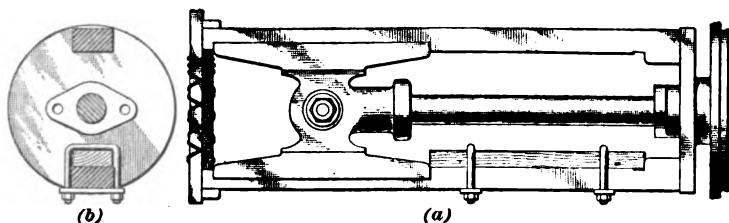

FIG. 4.
**6. Alligator Type.**—If the crosshead is of the alligator type, push it to the back end of the guides until it is even with the travel mark, and block it there securely to prevent its moving should steam leak into the cylinder. It is always a good plan to remove the cylinder cock from the end that the piston is in, or block it open to insure against an accumulation of pressure back of the piston. A method of blocking this type of crosshead is shown in Fig. 4 (*a*). View (*b*) shows a handy clamp for this purpose. If no clamp is at hand, wire the block in place, or use a piece of bell cord, or other cord, or rope, that is strong enough. The crosshead should be blocked at the back end of the guides, for the reason that if it should come loose and the piston be forced forwards through the front cylinder head, less damage will be done than would be the case if the piston were forced through the back head. On some engines, however, the piston must be blocked to the front end